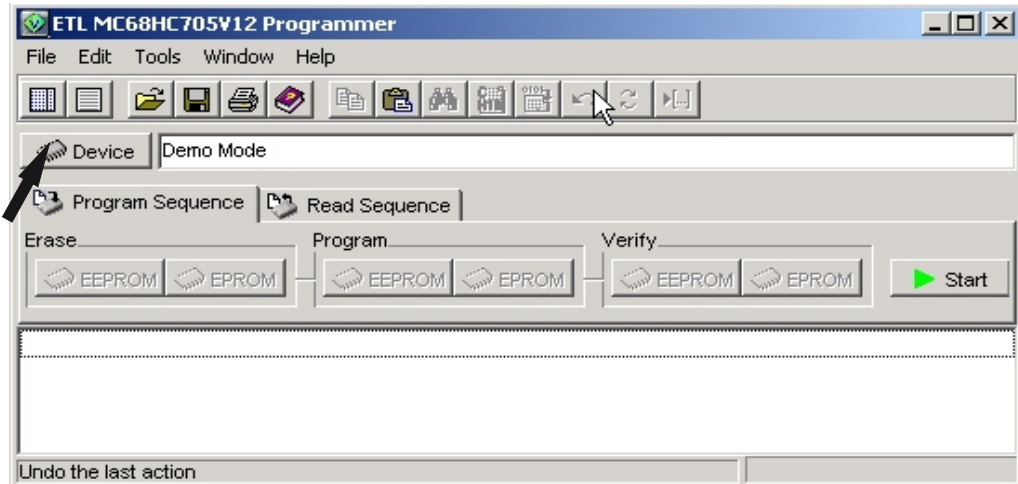
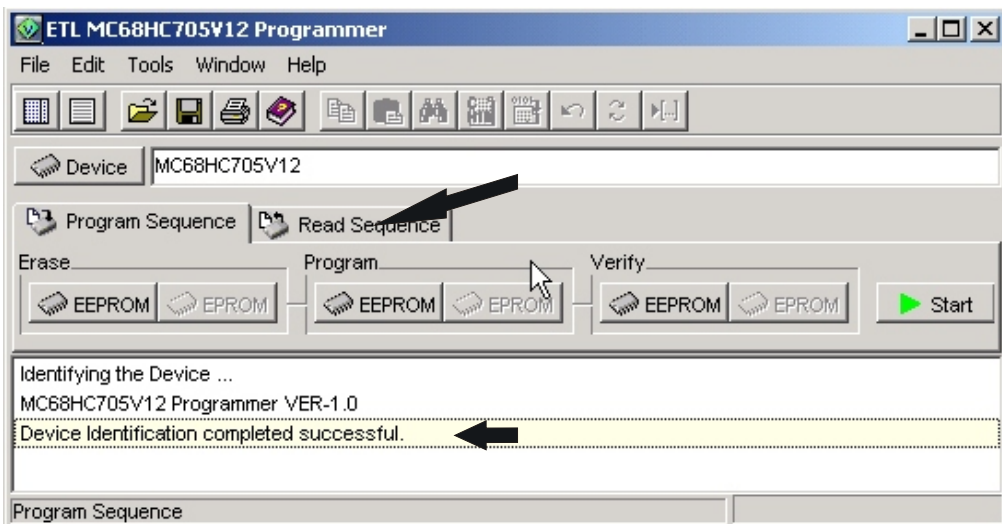
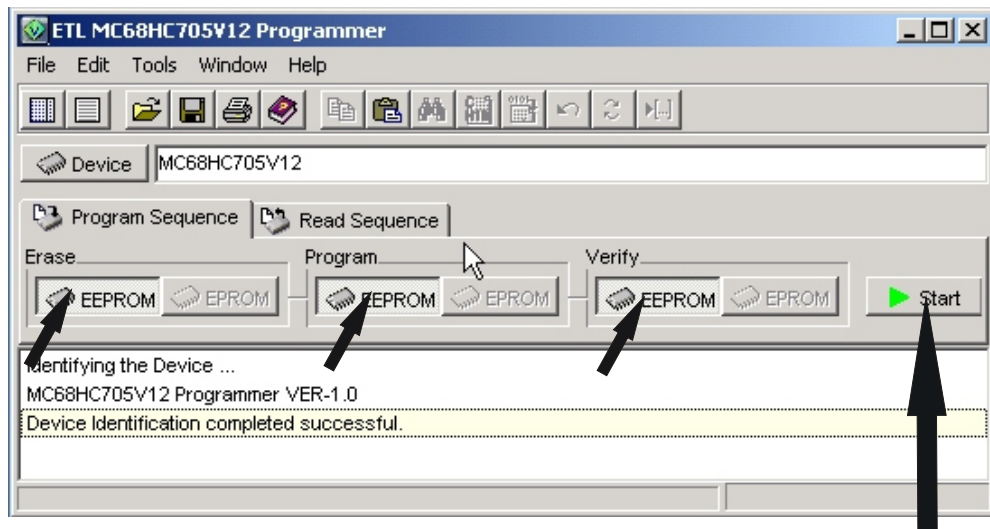

Figure 1 (Select Device)
Figure 2 (Identification completed)
Figure 3 (Operation buttons)
- 6) Click "Device" button first (see Figure 1) and wait when auto detect is completed (See Figure 2).
- 7) Click on inlay "Program Sequence", "Read Sequence" (see Figure 2) and push operation buttons on your choice "Read", "Erase", "Program", "Verify" (See Figure 3).
- 8) Press "Start" button to begin operation (See Figure 3).